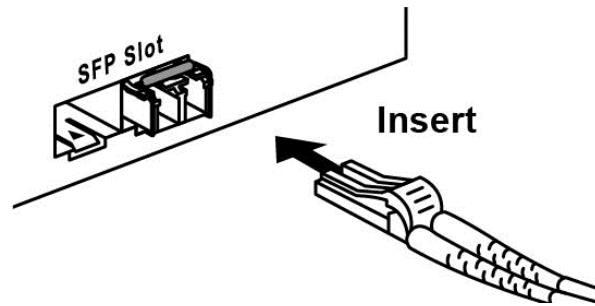

Figure 2.6: LC Connector to the Transceiver
Step 2. Insert the fiber cable of the LC connector into the transceiver as shown below in Figure 2.6.